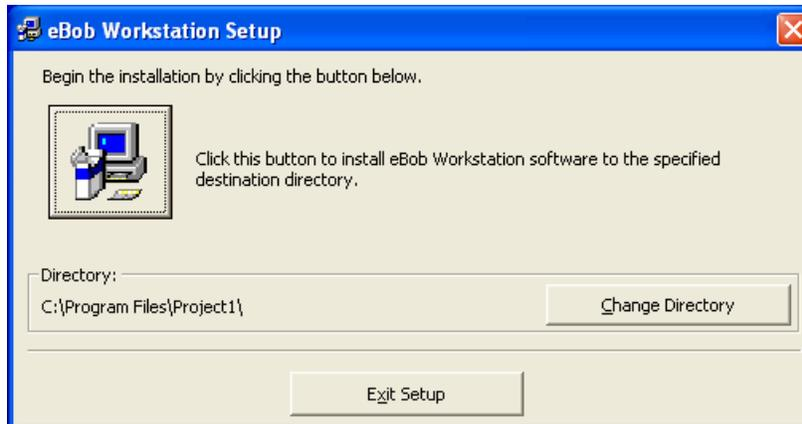
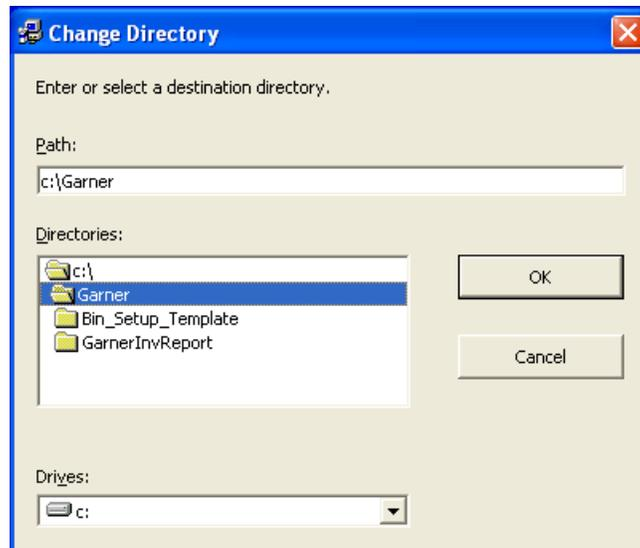

Figure 3
Figure 4
On the next screen (Figure 3) you *must* click Change Directory and enter C:\Garner in the path (or select it in the Folders List) and Click OK. See Figure 4.
*NOTE: Change the default folder for the install to C:\Garner. (Figure 4) This is REQUIRED for proper operation.*